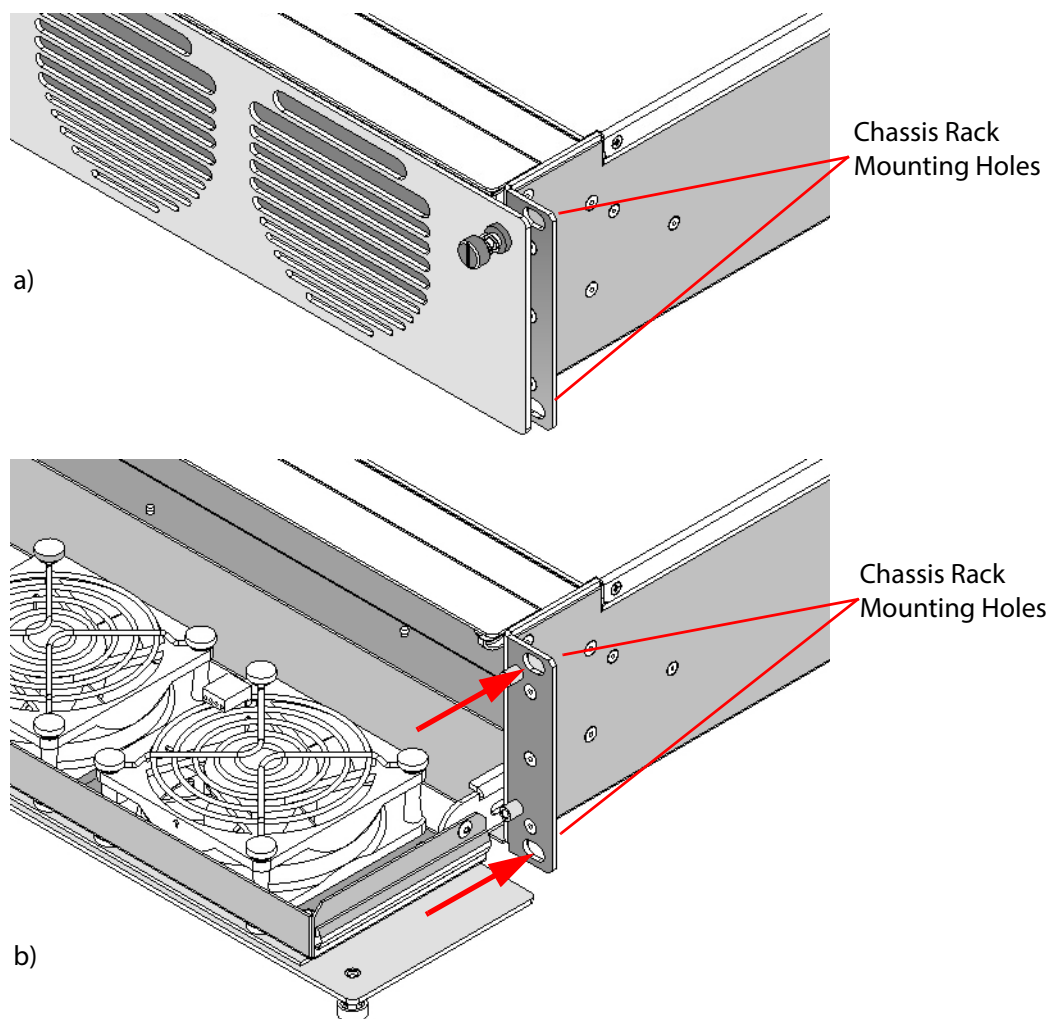

Fig. 3-3: MV-821 Multiviewer Chassis Rack Mounting Holes
- 4 Open the MV-821 front door (see To Open the Front Door, on page 24). Four chassis rack mounting holes are revealed, two on each side. See Figure 3-3.